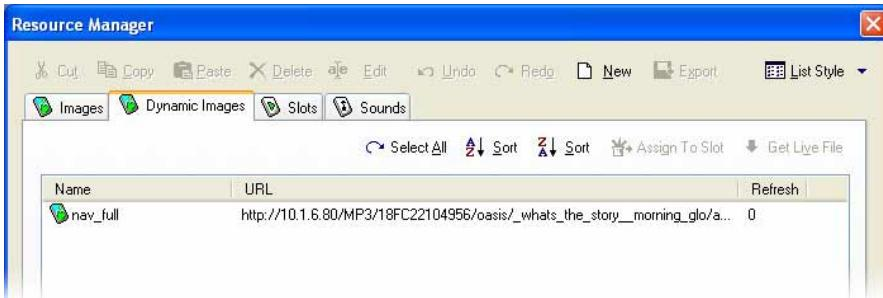

Figure 5
- d. In the "Resource Manager" you will see the Dynamic Image you created (**Figure 5**). Repeat the above steps for each separate resource you need to create.